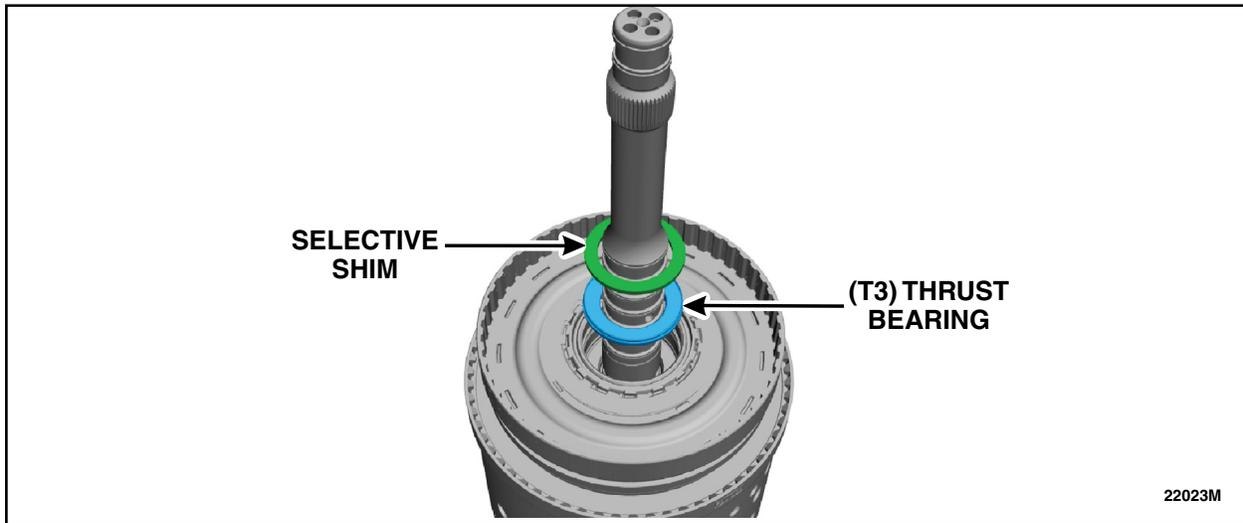

FIGURE 20
23. Using a magnet, remove the selective shim and the (T3) thrust bearing. See Figure 20.